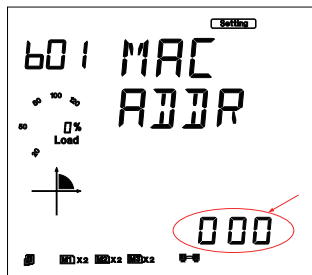

Fig 5-89
c). Set module address in the first setting page. Press the "V/A" key to go to the setting page. Users may set the parameters pointed out in Figure 5-89. The cursor starts at the first digit. The BACnet MS/TP Address's default value is 0, and the user defined range of address is 0~127. After setting the BACnet MS/TP Address, press the "V/A" key to accept. Press the "P" key to go to the second setting page for the baud rate.